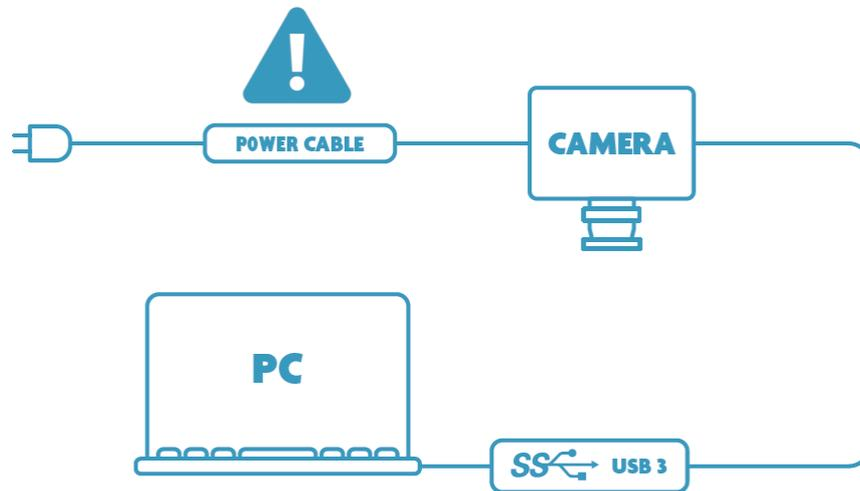

Figure 53: Connection diagram showing the connections between all components of the snapscan system.
- Ensure that the system is connected, as shown in Figure 53. Please make sure USB cable is plugged before the power cable as mentioned above.